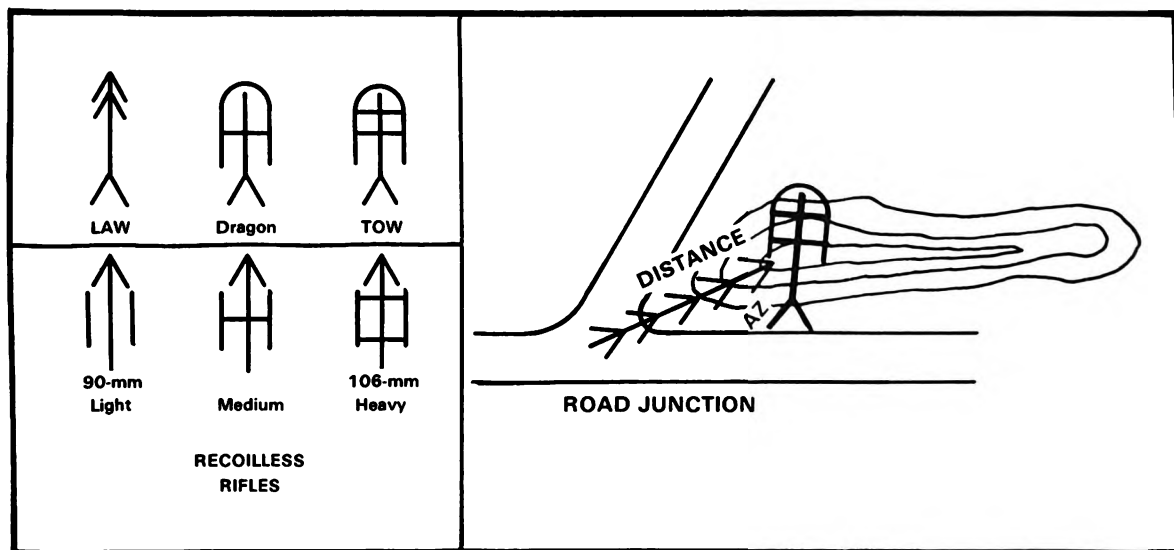

Figure 2.
(1) In the lower center of your range card, indicate your firing position by drawing the symbol for your assigned weapon.
(2) Show the location of your **firing position** by drawing a sketch of a nearby recognizable terrain feature. Label it and draw an arrow to the weapon symbol. Add the distance and azimuth from the terrain feature to your firing position (figure 2).